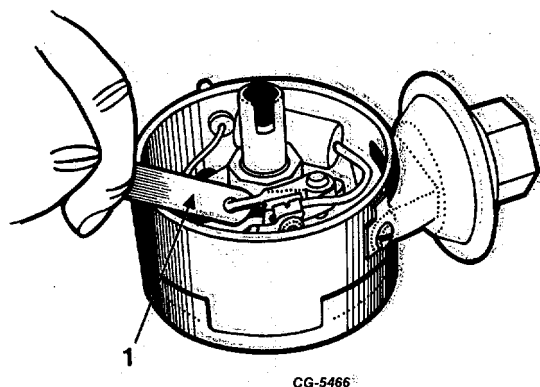

Fig. 39. Measuring Contact Point Gap
- b. Measure point gap by inserting feeler gauge between contacts (Figure 39). (See DISTRIBUTOR TEST SPECIFICATIONS for specified gap dimension).
(1) Loosen contact point set mounting screw.
(2) Insert screwdriver blade between contact bracket. Notch